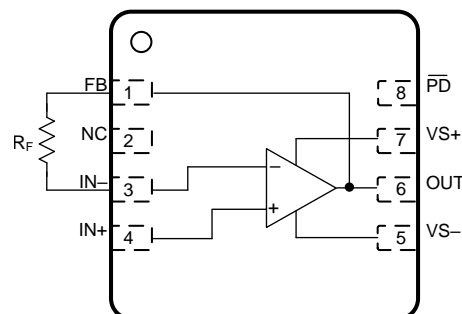

Figure 49. R_F Connection Between FB and IN $-$ Pins
1. A feedback resistor (R_F) can connect between the FB and IN $-$ pin on the same side of the package (see Figure 49) rather than going around the package.